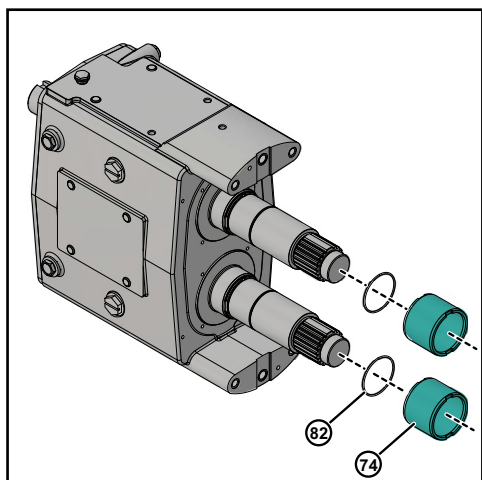

Figure 119 - Remove Sleeves and O-rings
5. Remove the two sleeves (74) and remove the two shaft O-rings (82) from the shaft, as shown in Figure 119.